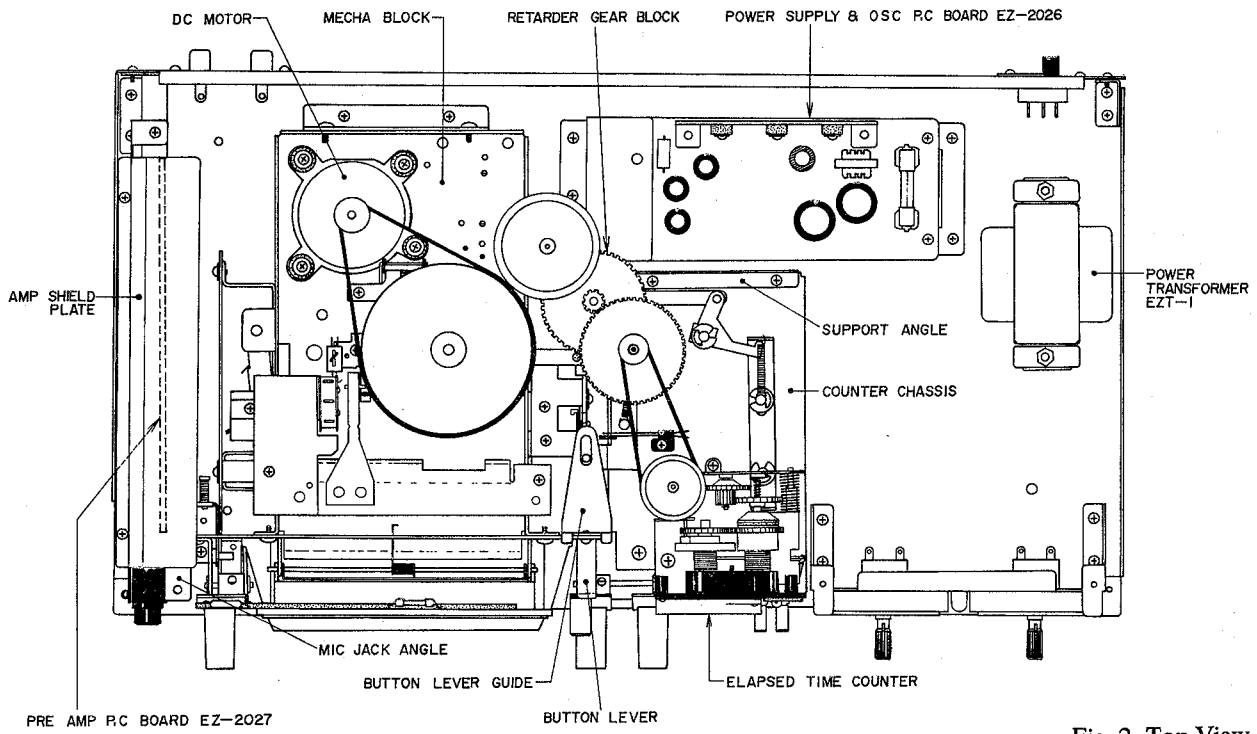

Fig. 2 Top View
1) Proceed in the following order for machines with these serial numbers: (Refer to Fig. 2)